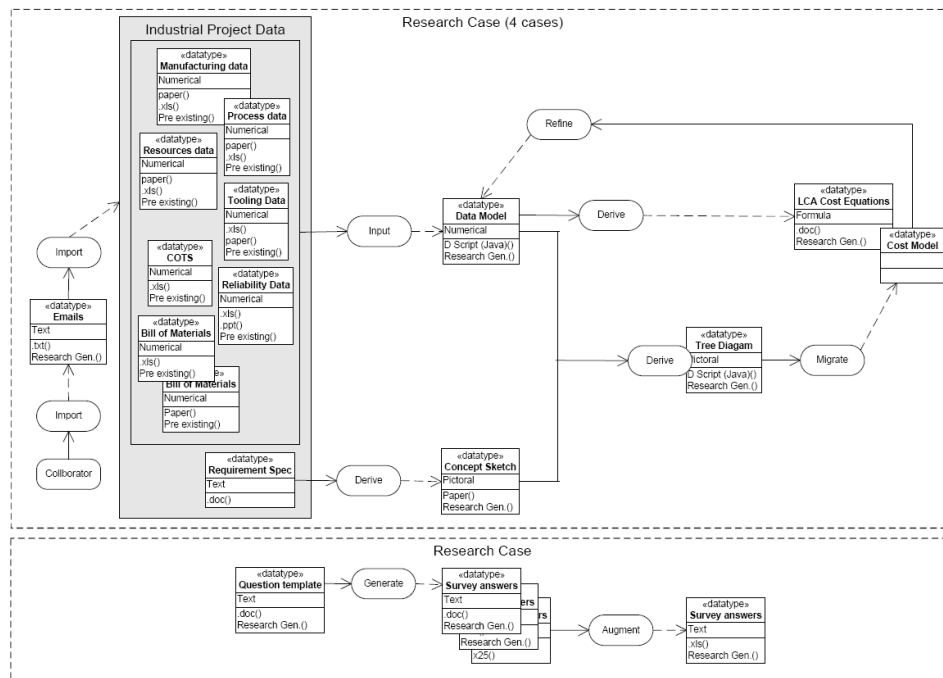

Figure 7: Map of data processing steps
By way of example, in the course of our investigations, both we and the researchers themselves have found diagrams like these (Figure 7) really helpful in understanding the structure and relationships between their data. We're now considering how researchers
- Figure 7: Tom Howard.